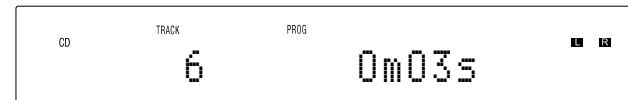

Figure 34
4. To start playback of the just entered program, press the PLAY/PAUSE $\blacktriangleright/\parallel$ Push-button. Refer to figure 34.